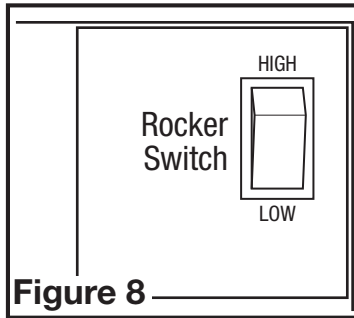

Figure 8
2. Locate the rocker switch at the top of the wiring compartment and set to the desired CFM - "Low" for 50 CFM or "HIGH" for 80 CFM (**Figure 8**).